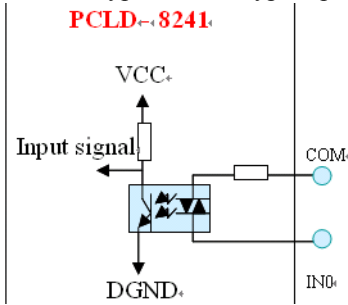

Figure D.1:
- Din rail package--- TS32 (A)/TS35 (A)
- 64 Source-Type or Sink-Type input points (Figure D.1)